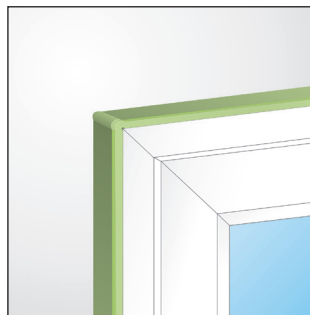

Fig. 3
- Allow an extra 10 mm/m when cutting the tape length to allow for potential shrinkage- the dimension should be based on the opening size, not frame dimension. Make tight butt joints at the corners and between the end of one roll and start of another. Pay particular attention to the corner joints (See Fig. 3).